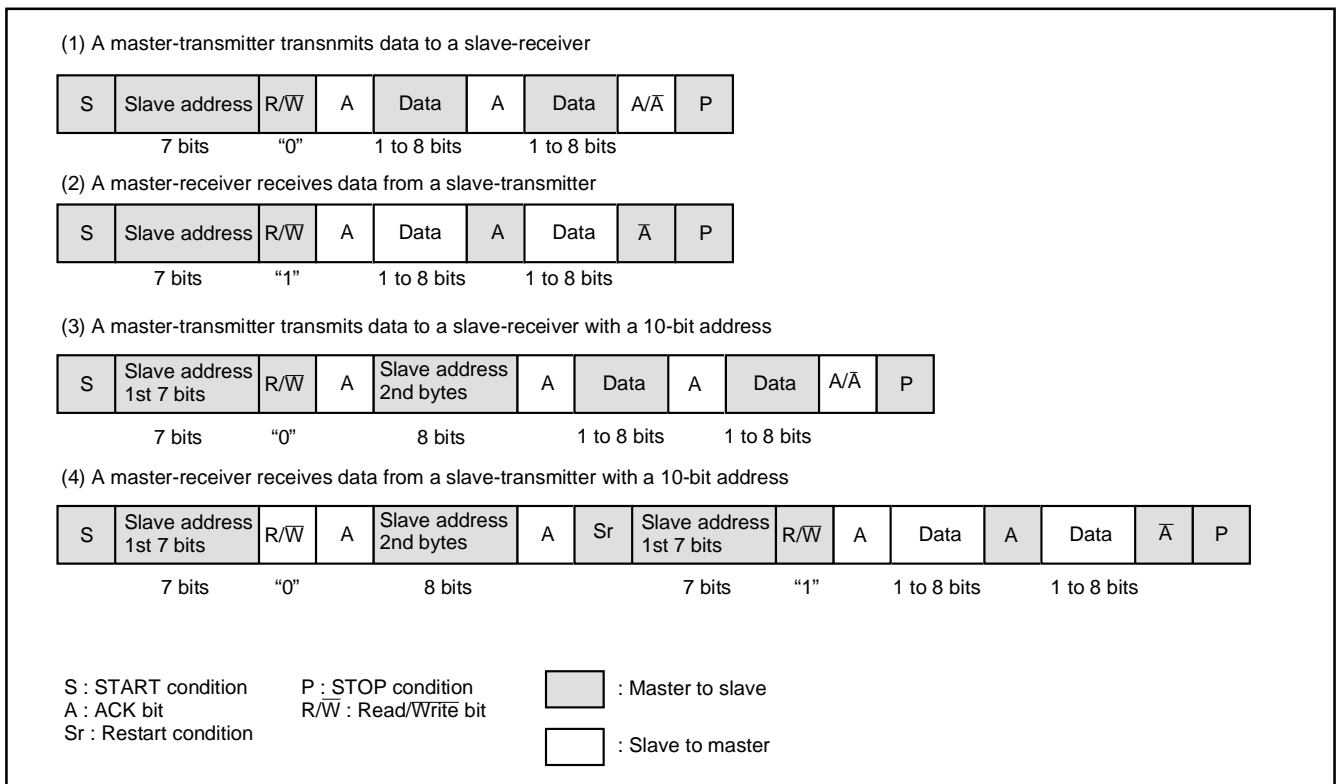

Fig. 39 Address data communication format
① 7-bit addressing format
To adapt the 7-bit addressing format, set the 10BIT SAD bit of the I²C control register (address 002E16) to "0." The first 7-bit address data transmitted from the master is compared with the high-order 7-bit slave address stored in the I²C address register (address 002C16). At the time of this comparison, address comparison of the RWB bit of the I²C address register (address 002C16) is not performed. For the data transmission format when the 7-bit addressing format is selected, refer to Figure 39, (1) and (2).
② 10-bit addressing format
When the first-byte address data agree with the slave address, the AAS bit of the I²C status register (address 002D16) is set to "1." After the second-byte address data is stored into the I²C data shift register (address 002B16), perform an address comparison between the second-byte data and the slave address by software. When the address data of the 2 bytes agree with the slave address, set the RWB bit of the I²C address register (address 002C16) to "1" by software. This processing can make the 7-bit slave address and R/\bar{W} data agree, which are received after a RESTART condition is detected, with the value of the I²C address register (address 002C16). For the data transmission format when the 10-bit addressing format is selected, refer to Figure 39, (3) and (4).